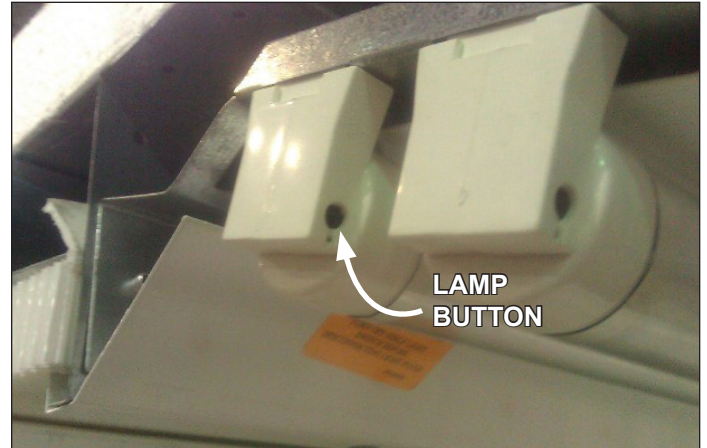

Fig. 17 Secure new T-8 on lamp holder by aligning with plug button.
3. Push the new T-8 lamp into place on the lamp holder. When the T-8 is properly seated, the lamp button - which secures the T-8 to the lamp holder - will be clearly visible through the lamp button hole (Fig. 17).